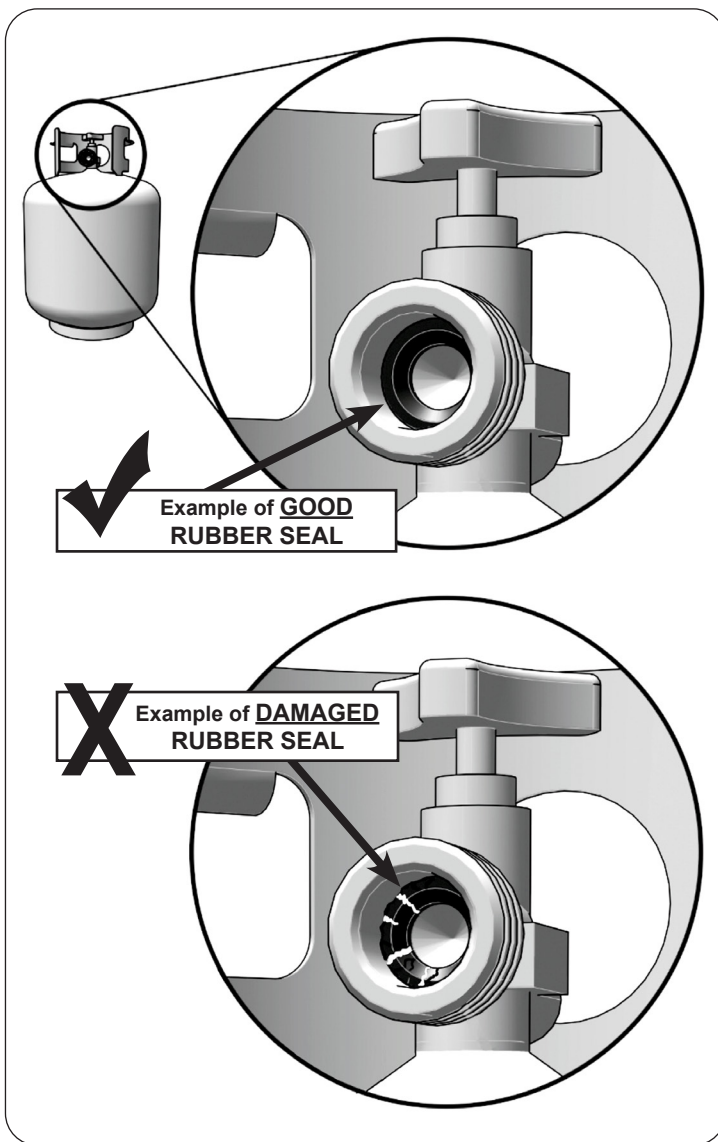

Fig. 8-1 Inspect rubber seal
- D. **CGA 791 connections on LP gas cylinders:** The cylinder face elastomeric face seal element (rubber seal) on these devices could, over time, show marked and visible damage or deterioration that might cause a leak even with the connection tightened. A visual inspection for the seal must be carried out every time a LP gas cylinder is replaced or refilled. Any LP gas cylinder showing signs of damage or deterioration as illustrated in Fig. 8-1, including visible cracks and pitting, must be replaced.